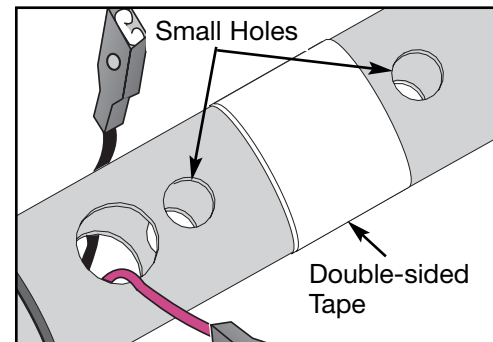

Figure 28
- B. Remove the protective paper from the loose pieces double-sided tape and stick each one between two small holes in the handrail. See Figure 28.